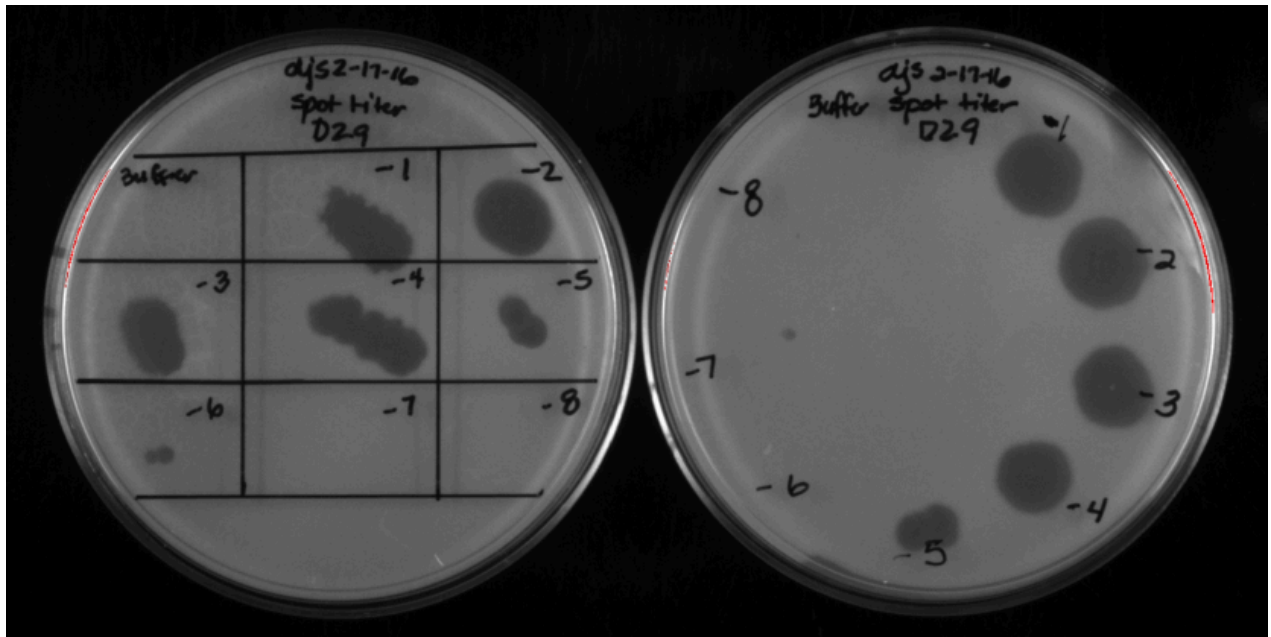

Figure 6.4-1. Two spot plate examples.
2. Using a labeling pen, divide the plate into as many sections as you have samples. Remember to include a section for a negative control. See Figure 6.4-1 for examples of how to best divide the plate into sections. Label each section according to your samples.